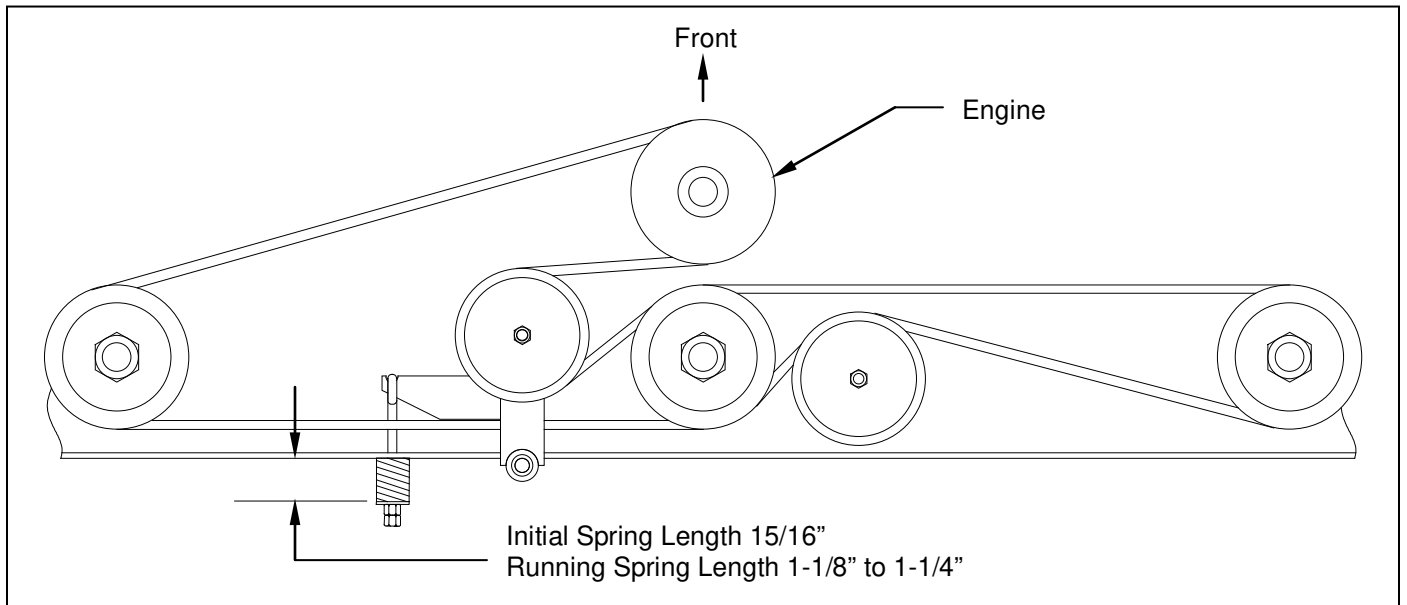

Figure 9: Belt Pattern and Spring Adjustment
G. DRIVE BELT REMOVAL AND TENSION (*See Figure 9*)